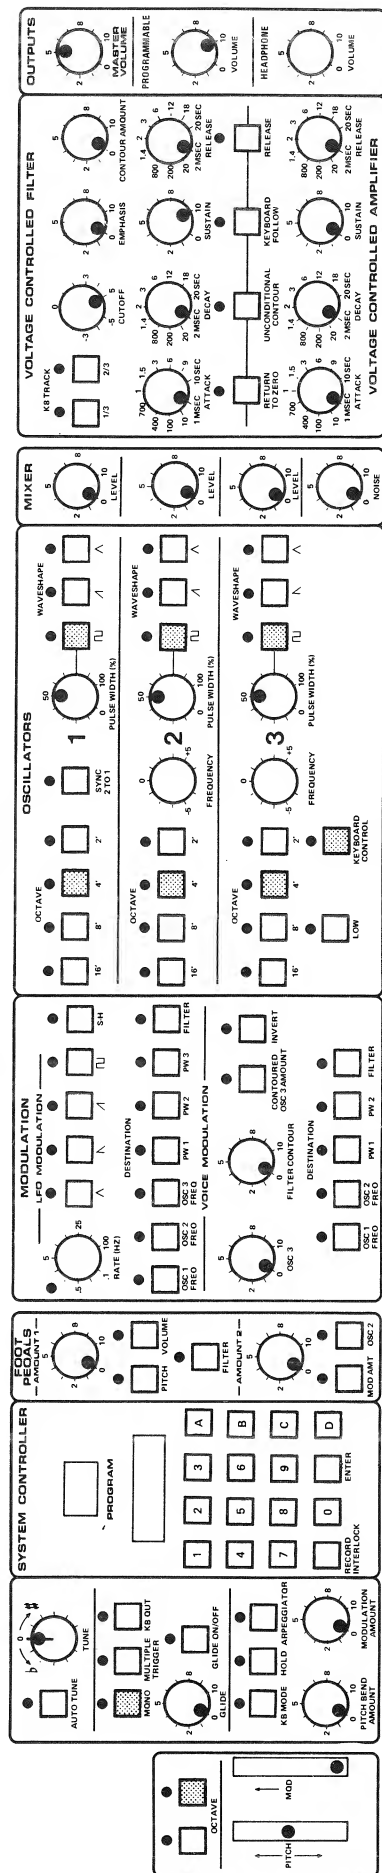

FIGURE 3 VCA BALANCE AND MAIN OSCILLATOR TUNING
2. Set up FRONT PANEL controls in Fig. 3.
NOTE: POWER SUPPLY and DMUX board adjustments must be verified with a 4-1/2 digit DVM before tuning is attempted. Set up FRONT PANEL controls as in Figure 3 and: